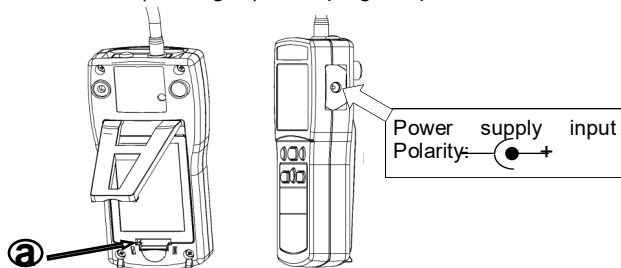

Fig. 2: Battery compartment. Fig. 3: Power supply input.
- Insert the batteries in the battery compartment. In order to open the plastic door please apply a slight pressure with a finger or with the help of a small screwdriver on the plastic tooth (see 'a' in Fig. 2); then insert batteries paying attention to the correct polarity.